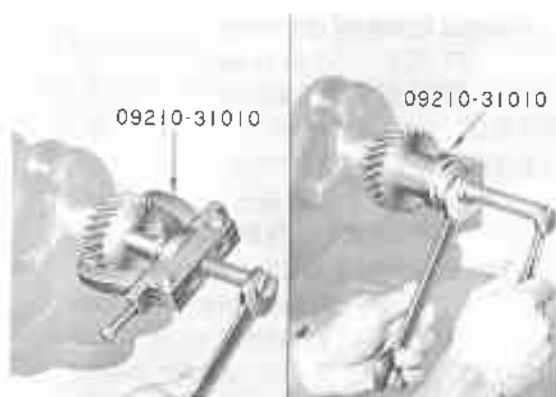

Fig. 3-47 Replacing Timing Gear B0276 B0278
2. To remove and install the timing gear, use the Timing Gear Tool Set 09210-31010 as shown in figure 3-47.